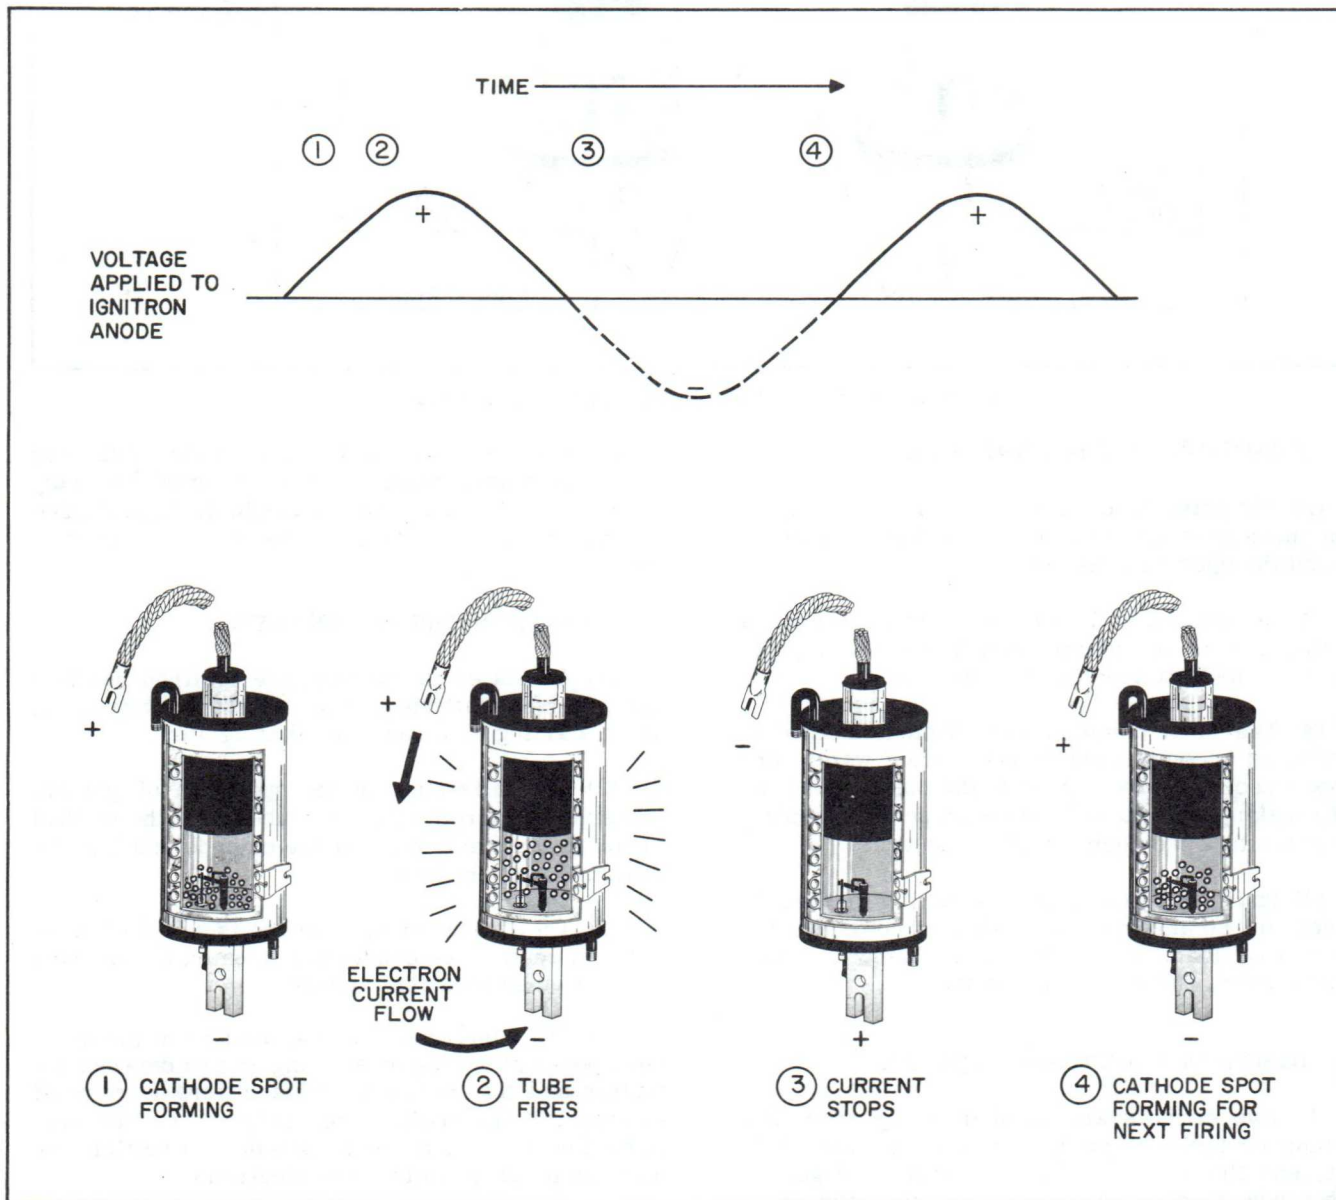

Figure 5. Ignitron Rectification
(1) In 60-cycle alternating current, the current changes direction 120 times each second (twice each cycle). A diagram for three half-cycles of alternating current is shown in figure 5. Total time required is $3/120$ second.
(2) Electrons flow from the cathode to the anode only while the anode is positive. At the point in the diagram where the broken line begins, the anode has just reached zero potential and is about to become negative, therefore the flow of current stops. The ignitor ceases to function once the current has started, and current will not flow through the tube during the next positive half cycle until the ignitor produces another cathode spot.
(3) In ignitron tubes used for rectifier service, the ignitor may be triggered to start the flow of current again at any time after the anode becomes positive again. The ignitor timing may be delayed thereby controlling the average current conducted by the tube.